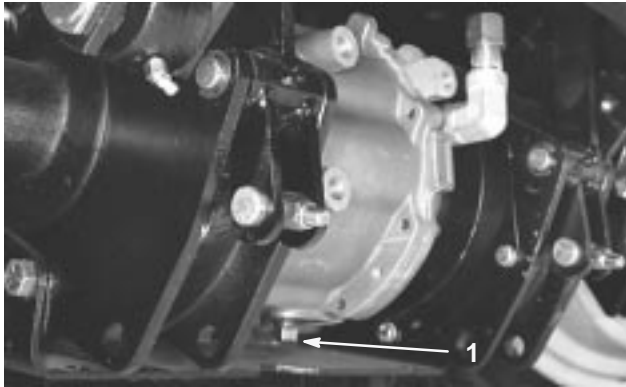

Figure 54
2. Clean area around the drain plug (Fig. 54).